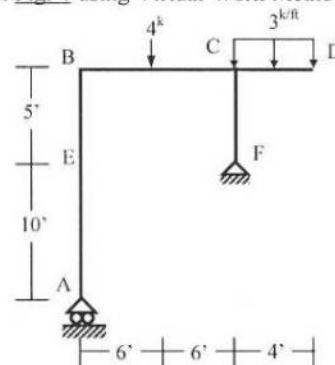

Fig. 5
5. Use the Virtual Work Method to calculate the horizontal deflection at point E of the frame shown in Fig. 5 [Given, $EA = 400 \times 10^3\text{k}$, $GA^* = 125 \times 10^3\text{k}$, $EI = 40 \times 10^3\text{k-ft}^2$].